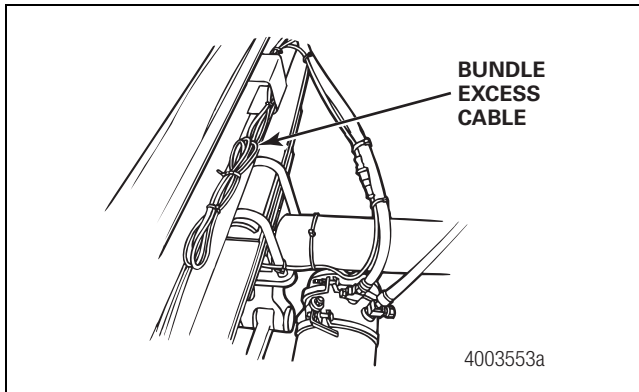

Figure 9
9. Bundle any excess cable in a “Z”-shaped loop. Figure 9.
- D. Bundle excess cable in a loop (bow tie) and secure the cable in the sub-frame. Figure 9.